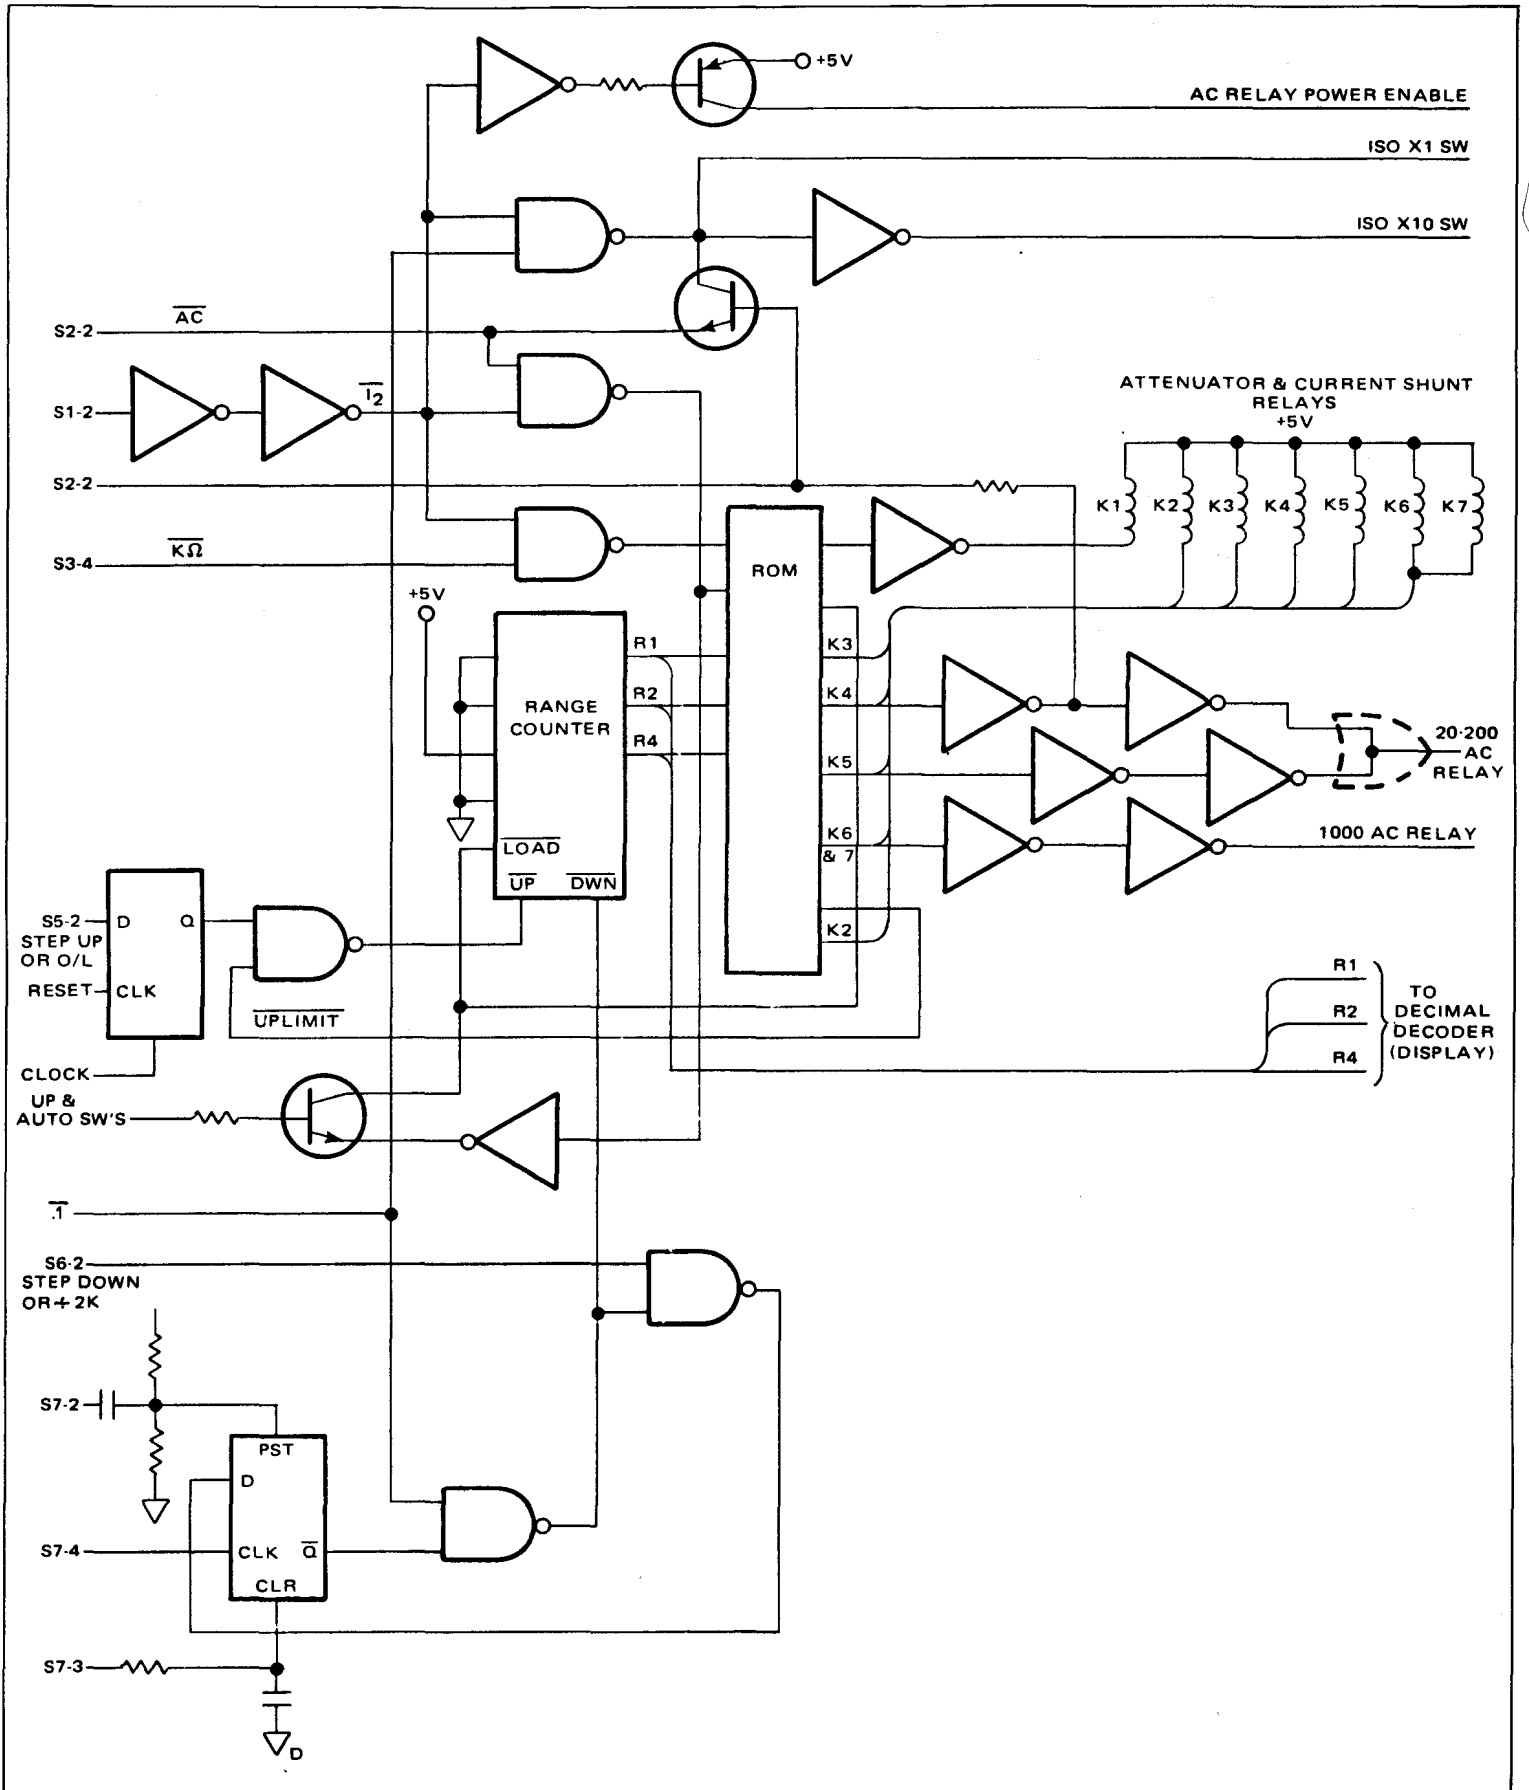

Figure 4.16 - Range Control
4.37 *Range Control Logic.* The range control logic is illustrated in simplified form in figure 4.16. The range control circuits control the gain of the isolator, the attenuation in the AC Converter and the attenuation in the voltage attenuator and current shunt circuits. In addition, the range control circuits provide a range code to the